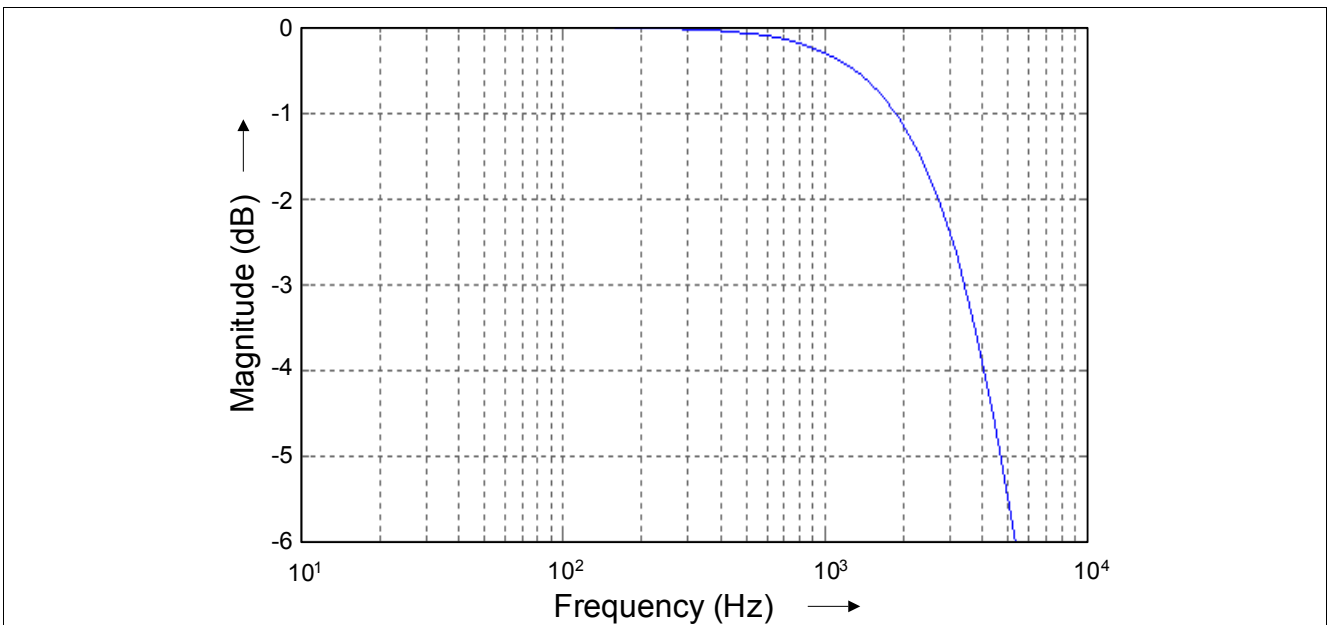

Figure 7-2 DAC Input Filter (Magnitude Plot)
- 7) More information, see **Figure 7-2 “DAC Input Filter (Magnitude Plot)” on Page 16**.